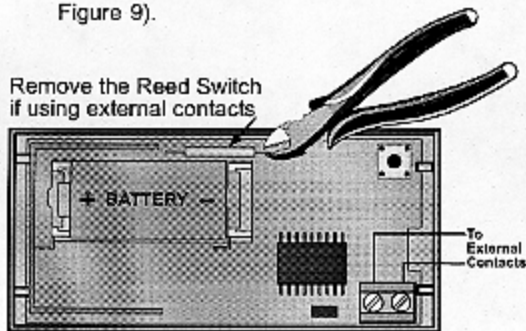
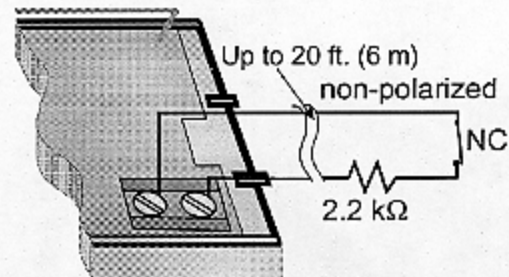
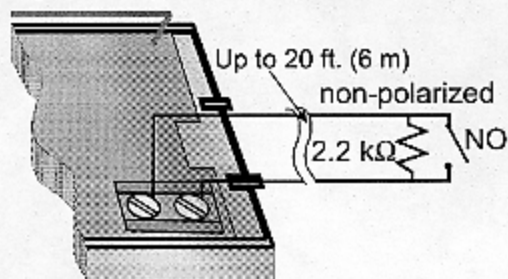

Figure 9 - Removing the Reed Switch
Figure 10 - Typical Normally-Closed (NC) Wiring
Figure 11 - Typical Normally-Open (NO) Wiring
If using an external device, remove the reed switch (see Figure 9).
One set of **External Normally-Closed (NC) Contacts** (see Figure 9) or one set of **External Normally-Open (NO) Contacts** (see Figure 10) may be monitored. Be sure that your panel supports the intended loop condition.
One set of **External Normally-Closed (NC) Contacts** (see Figure 10) or one set of **External Normally-Open (NO) Contacts** (see Figure 11) may be monitored. Be sure that your panel supports the intended loop condition.